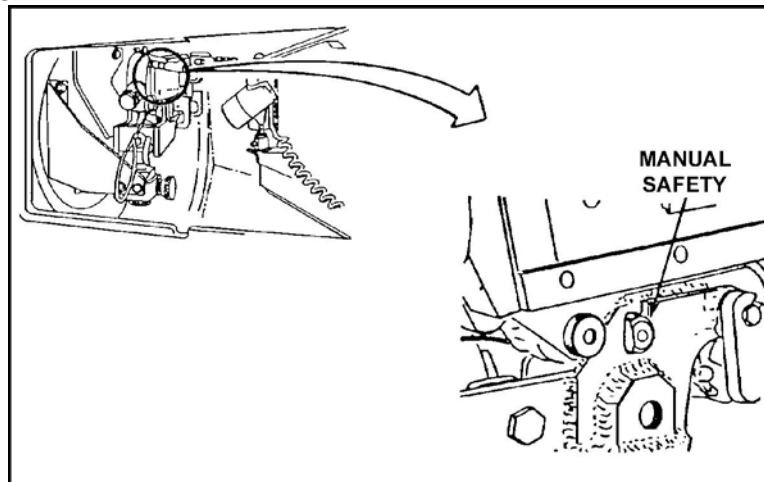

Figure 2. Manual safety.
- NOTE: Safety (S) or fire (F) is pushed through one side of the gun to the other side. Safety (S) is seen on the right side of the gun. Fire (F) is seen on the left side of the gun.
- (1) Pull charger handle back firmly.
- (2) Push manual safety through to "S" position (Figure 2).